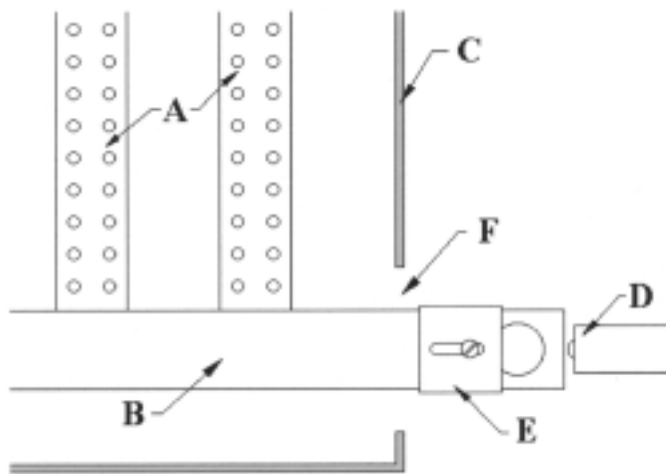
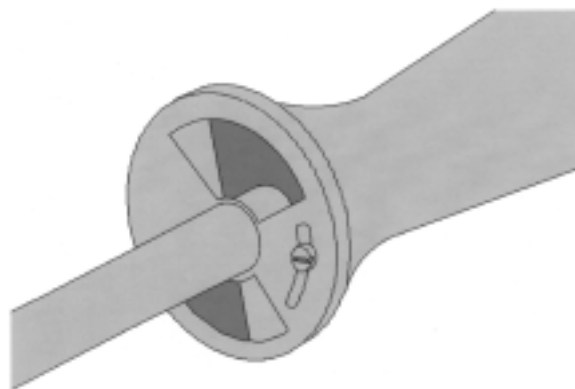

Figure 9-48. Primary air sleeve
Figure 9-49. Primary air shutter
accomplished by moving a sleeve (Figure 9-48) or rotating a shutter (Figure 9-49) thereby changing the opening for primary air. The gas nozzle (D in Figure 9-48) converts much of the static pressure in the gas to velocity pressure. The high velocity gas shoots into the distribution header (B) drawing primary air along with it through the opening that's adjusted by the sleeve (E). The mixture then flows into the flame runners (A) and out the ports where heat from a spark or adjacent fire provides ignition energy to start the combustion. Always remember that additional air, secondary air, is required to complete the combustion and enters through openings like the one at (F).